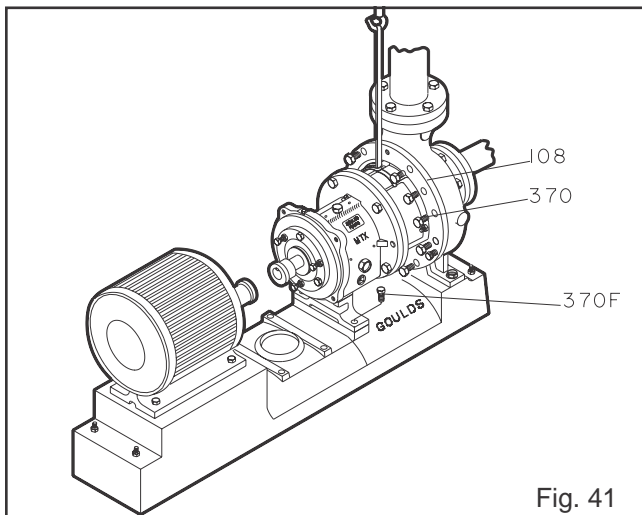

Fig. 41
8. All, except with C-Face adapter: Place sling from hoist through frame adapter (108) or frame (228A) for STX (Fig. 41).